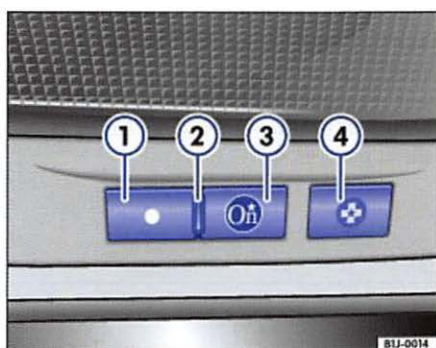

Fig. 11 OnStar services button (OnStar button) and emergency button
– Press the blue  button ⇒ fig. 11 (3) or the OnStar emergency button (4). A small microphone picks up your voice and the OnStar Advisor talks to you through your stereo speakers.